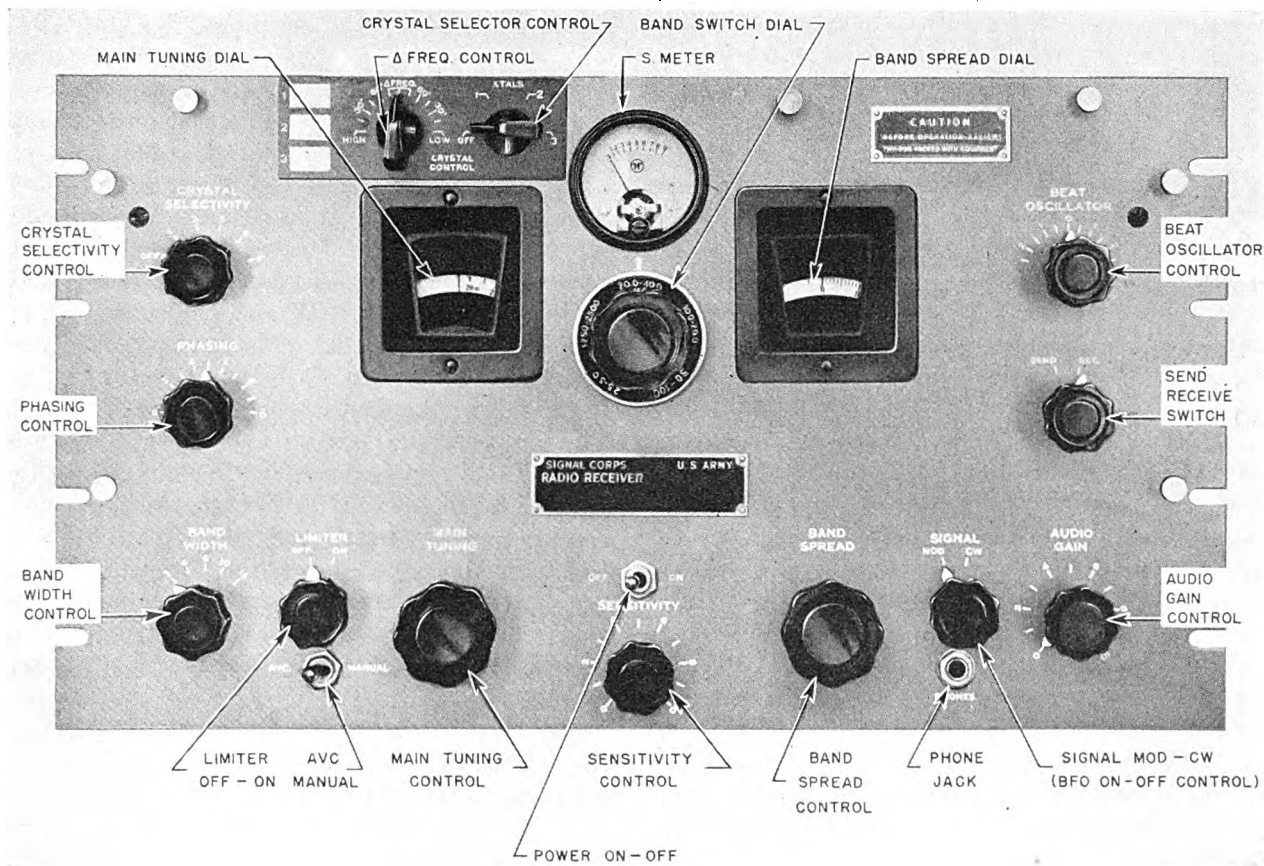

Figure 16. Operating control panel.
a. The operating controls of Radio Receiving Set AN/FRR-12 are located on the front panels of the receiver units. The controls of both receivers are identical (fig. 16). The controls and their functions are as follows:
a. CODE RECEPTION. Set the front panel controls (fig. 16) as follows: